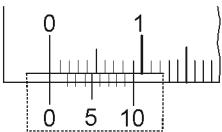
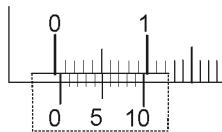
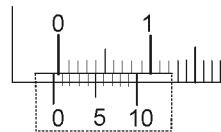

Fig.1.2
Fig.1.3
Fig.1.4
- (A) Measuring the diameter of a cylindrical body
3. Calculate zero error as a given method with (Fig. 1.2 to Fig.1.4)
- (B) Measuring the internal diameter and depth of the given beaker and test tube to find the volume.
When the jaws measuring outer diameter O touch each other, the zero of the vernier should coincide with the zero of the main scale then, there is no error in the instrument as shown in (Fig.1.2) If it is not so, the instrument is said to possess zero error (This might have happened due to a manufacturing defect or due to rough handling). Zero error may be positive or negative, depending upon whether the zero of vernier scale lies to the right or the left of the zero of the main scale as shown in (Fig.1.3 & Fig.1.4). In this situation, a correction must be required to the observed reading.
When both jaws are touching each other, zero of the vernier scale is shifted to the right of zero of the main scale see in (Fig.1.3). In this situation, during measurements, the reading taken will be more than the actual reading. Hence, zero error is positive in this case and value of positive zero error = $0.0 + 6 \times 0.01 = (+) 0.06$ cm. For any measurement done, the zero error should be ‘subtracted’ from the observed reading. Thus, corrected reading = observed reading – (+ zero error)
When both the jaws are touching each other, zero of the vernier scale is shifted to the left of zero of the main scale see in (Fig.1.4). This situation makes it obvious that while taking measurements, the reading taken will be less than the actual reading. Hence, zero error is negative in this case and value of negative zero error = $0.0 + 5 \times 0.01 = (-) 0.05$ cm. Thus, corrected reading = observed reading – (- zero error)